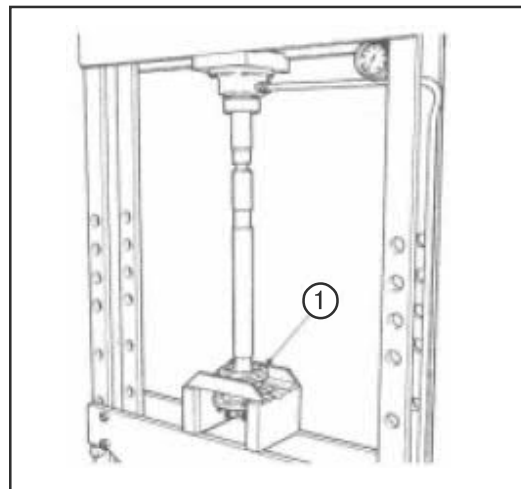

Fig. 5
3. With a hydraulic press, press the seal and bearing assembly . (Item 1 in Fig 5) off the shaft. Only remove the bearing cup if necessary.